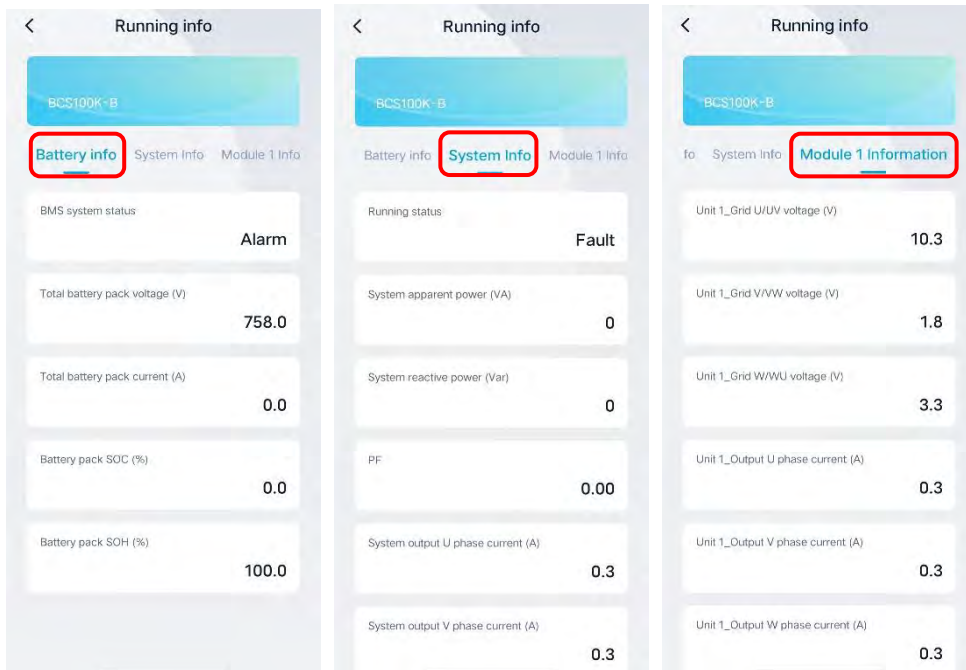

Figure5-6 More running info page
- Tap "More Running info" button at the bottom, the following items can be viewed (as shown in Figure5-6).